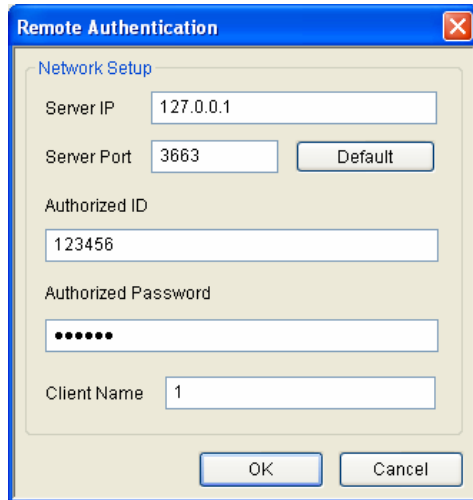

Figure 11-35
1. On the Host List, right-click **Host List by ID** and select **Remote Authentication Setup**. A dialog box appears. See Figure 11-35.